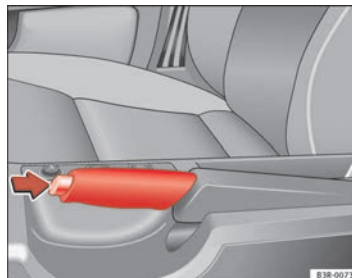

Fig. 138 Detailed view of the centre console: Handbrake on
- Pull the lever up slightly and *at the same time* press in the release button ⇒ **fig. 138 -arrow-**.